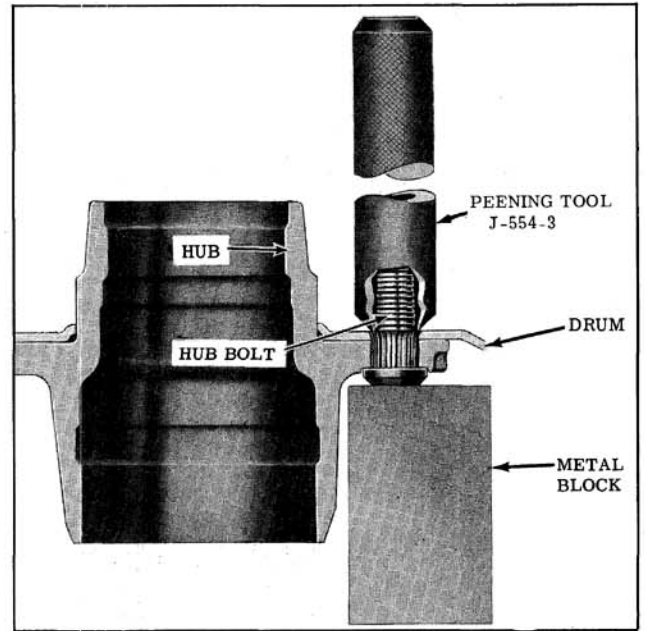

Fig. 9-108 Peening Hub Bolt
4. While supporting hub bolt,peen hub bolt into countersunk area of drum with the use of Peening Tool J-554-13 until the drum is secure to the hub. (Fig. 9-108)